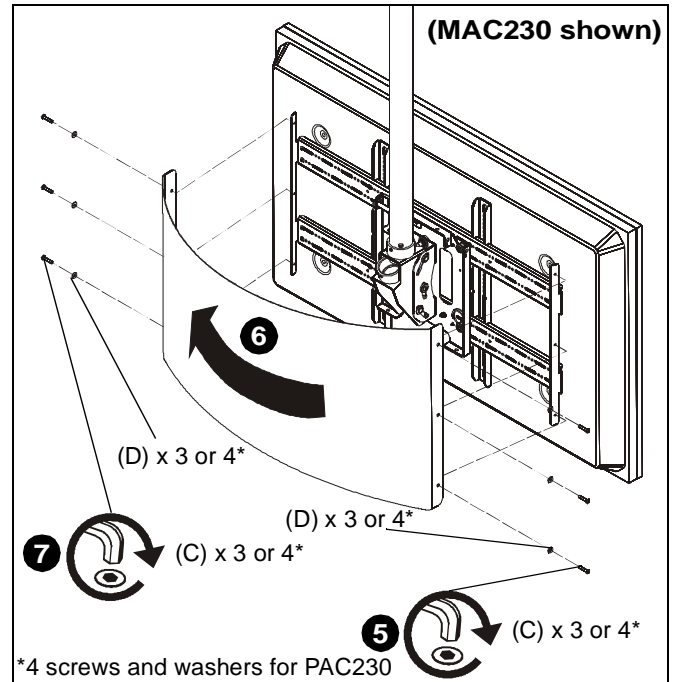

Figure 2
5. Use three (MAC230) or four (PAC230) #10-24 x 1/2" button head cap screws (C) and #10 washers (D) to secure one side of back cover (A) to attach bracket (B). (See Figure 2)
6. Wrap back cover (A) around mount and line up holes on other attach bracket (B) with holes on other side of back cover (A). (See Figure 2)
7. Use three (MAC230) or four (PAC230) #10-24 x 1/2" button head cap screws (C) and #10 washers to secure the other side of back cover (A) to attach bracket (B). (See Figure 2)